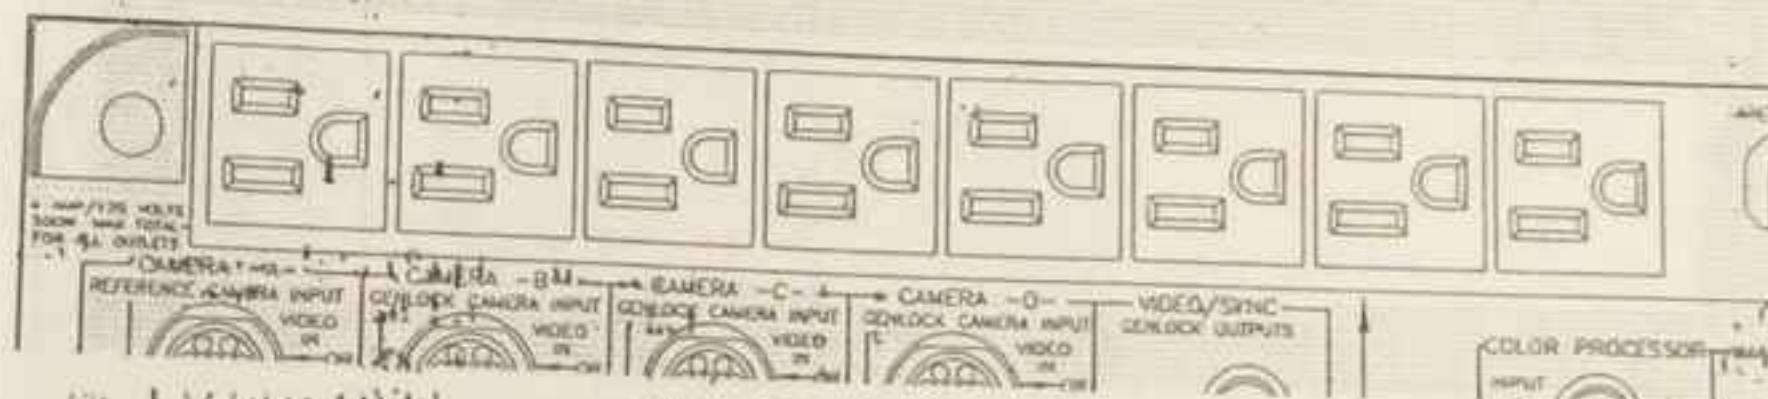

FIG. 3
FIG. 3 shows eight (8) plug-ins for 110V. (Not available in 220V PAL products due to a lack of space. Sorry!) These 110V receptacles are specifically provided for supplying power to eight (8) small video monitors. **CAUTION -** These outlets can provide a combined total of 500 watts, 4 amps. **DO NOT OVERLOAD THESE OUTLETS.** Note the caution warnings on the rear panel and throughout this manual. They are very important to you and your product.